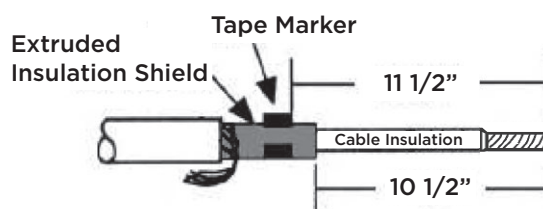

Fig. 5 - Shield Cutback
- D. Apply two layers of vinyl tape onto the insulation shield 11-1/2" back from the end of the cable. This will serve as a temporary marker for locating the cable adapter. (See Figure 5.)